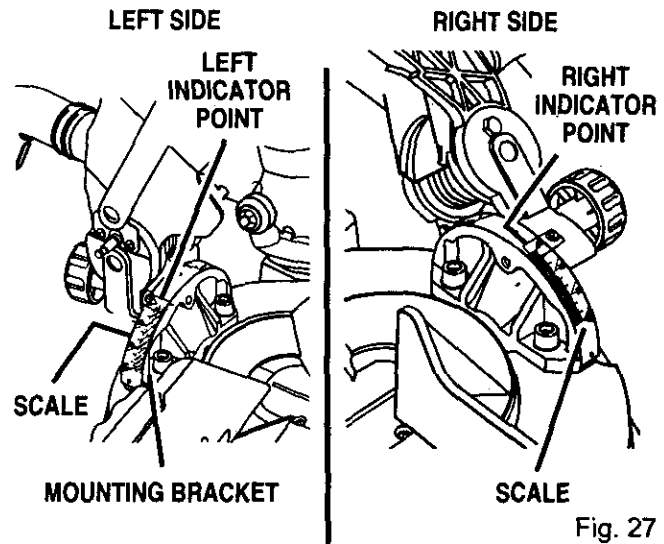

Fig. 27
See Figures 27 and 28.
- For your convenience there is a double scale located on the mounting bracket. *See Figure 27.* If one side becomes difficult to read as you move the saw arm to the left, simply refer to the other side. Align the indicator point for the side you choose with the desired angle.
- For your convenience there is a double scale located on the mounting bracket. See Figure 27. If one side becomes difficult to read as you move the saw arm to the left, simply refer to the other side. Align the indicator point for the side you choose with the desired angle.